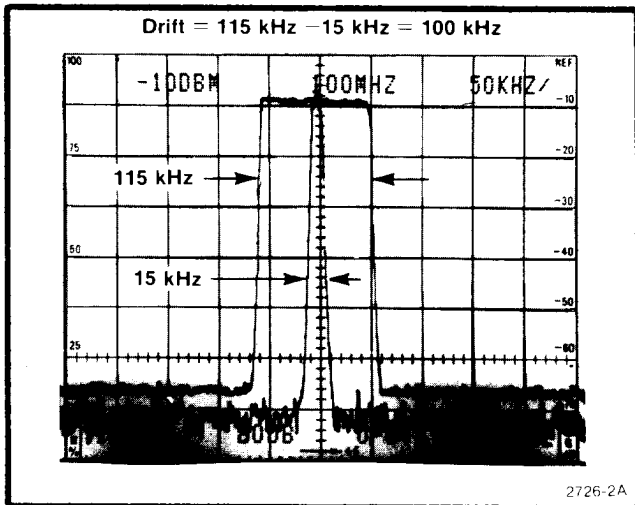

Fig. 3-11. Typical display of drift measurement without phaselock showing width of marker stored with MAX HOLD and beginning of marker saved in A.
e. Check the signal stability or drift over the specified time period. If the instrument has Digital Storage, drift will appear as the width of the response less the resolution bandwidth (see Fig. 3-11) after specified time period.